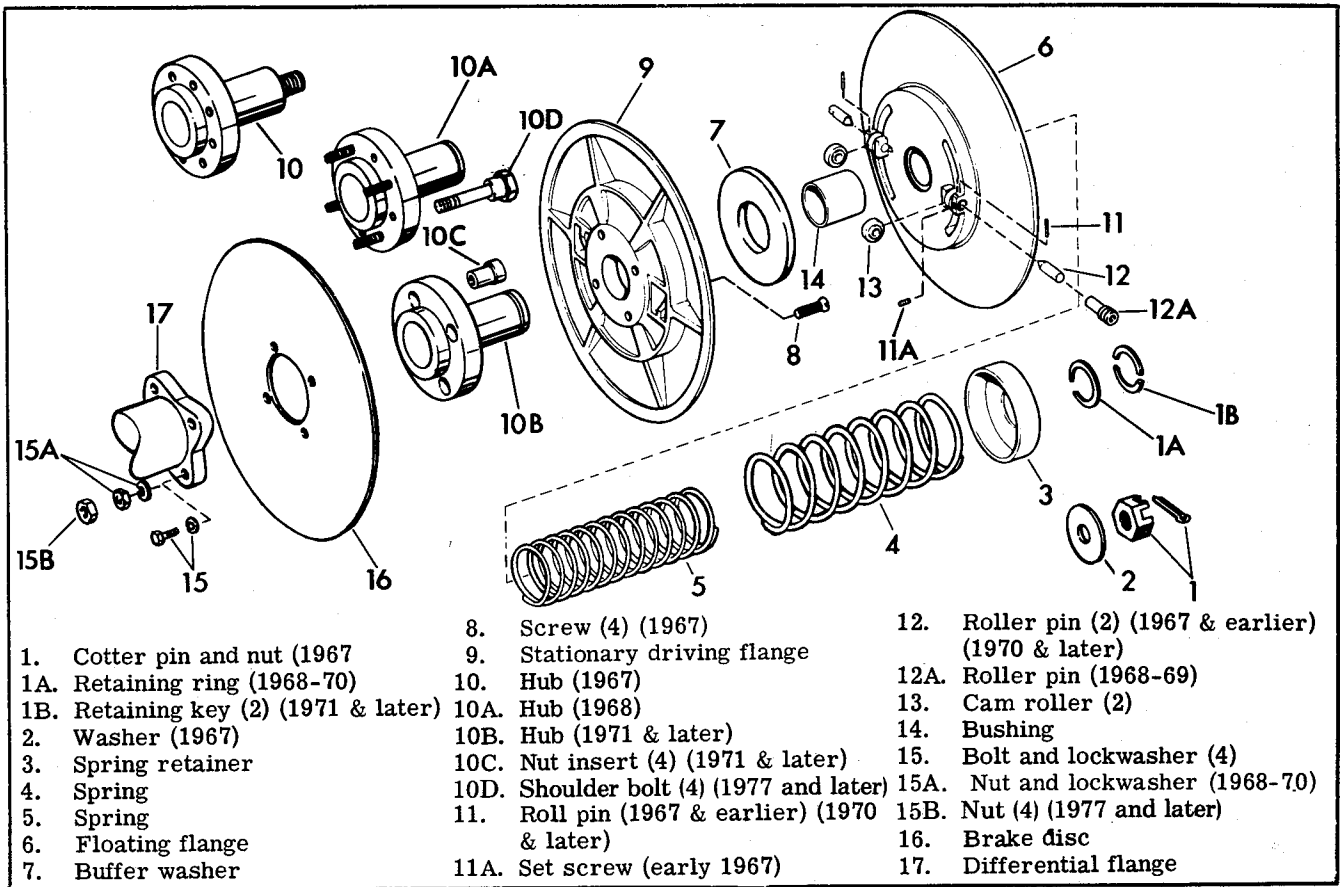

Figure 4B-50. Transmission Rear Drive - Exploded View (1967 & Later D) (1969-1972 DC)
**ASSEMBLING REAR DRIVE (Fig. 4B-48)**